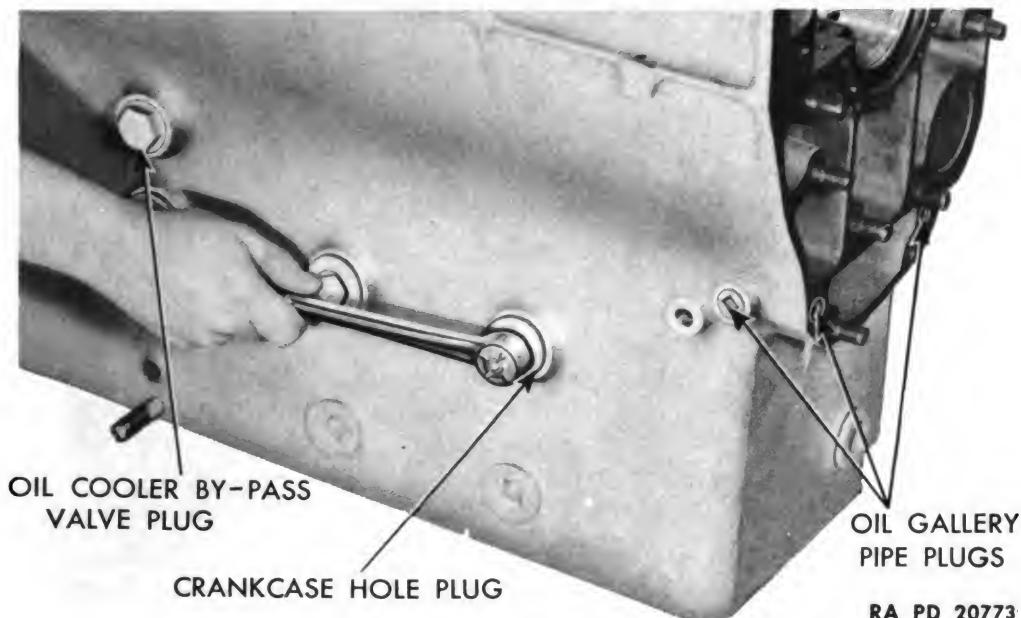

Figure 41 — Removing Crankcase Core Hole Plugs
a. **Clean.** Strip off gaskets and sealing compound from all surfaces. Remove pipe plugs from oil gallery at both ends of crankcase, and remove 10 crankcase core hole plugs (fig. 41). Clean inside and outside of crankcase with dry-cleaning solvent or with steam. **CAUTION:** *Be sure to clean oil gallery and water jacket.* Blow out oil gallery and water jacket with compressed air. Replace oil gallery pipe plugs, using joint and thread compound. Replace 10 crankcase core hole plugs, using new copper asbestos gaskets.
(1) **CAMSHAFT BEARINGS.** Measure each of the five camshaft bearings. The inside diameter of new bearings is 2.1240 to 2.1245 inches. If bearings are worn, replace as described in subparagraph c (1) below.
(2) **CRANKCASE.** Inspect all surfaces of crankcase for cracks, paying particular attention to top surface of cylinder around the bores. Inspect all studs, and replace those that are broken or bent, or that have stripped threads. Check condition of cylinder head dowel pins and front end plate dowel pins. Inspect all milled surfaces, and if nicked or burred, smooth down with a fine file. Measure cylinder bores. New bores measure 4.749 to 4.751 inches. Taper of 0.001 inch and out-of-round of 0.001 inch is permissible. Measure the bores to determine taper and out-of-round caused by wear. Measure the bores approximately 1 inch below top surface of crankcase, and also near bottom of bore. Inspect bores for scores. If bores are worn or scored, refer to subparagraph c (2) below for refinishing.